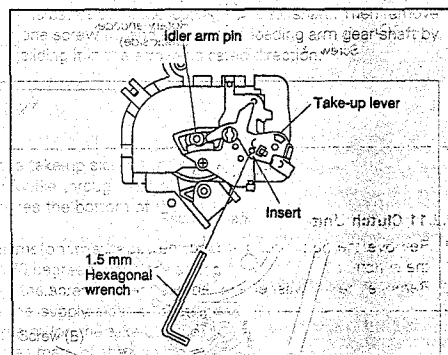
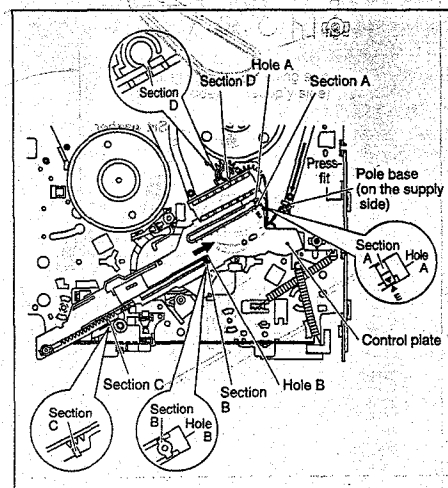

Fig. 2-2-24
Fig. 2-2-25
- (1) Adjust the position of the idler arm pin as indicated in Fig. 2-2-24. (to the left of center of the R section).
- (2) Bring the positioning hole of the take-up lever into alignment with the hole at the control plate guide and fix the position by inserting a 1.5 mm. hexagonal wrench.
- (3) Press-fit the pole base (on the supply side) as indicated by the arrow and install the control plate so that section A of the loading arm gear shaft fits into hole (A) of the control plate, section B of the control plate guide into hole (B), and the control plate comes under section C of the rotary encoder guide and section D of the loading arm (on the take-up side). Then slide the whole control plate in the arrow-indicated direction. (See Fig. 2-2-25).
- (4) Make sure that the mark E of the control plate is in alignment with the mark of the loading arm gear shaft. (See Fig. 2-2-25).
- (5) Pull off the hexagonal wrench for positioning.